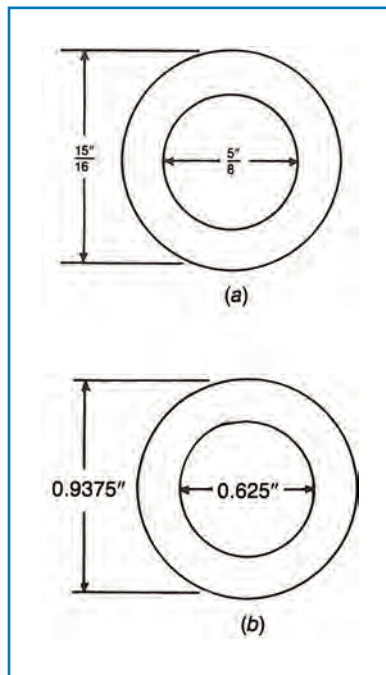

Fig. 12. Ring
The outside diameter (OD) of the ring in **Fig. 12(a)** is  $\frac{15}{16}$ ", and the inside diameter (ID) is  $\frac{5}{8}$ ". The use of these fractional measurements tells an experienced machinist that the dimensions should be held as closely as possible, but there are no critical fits involved between the ring and other machine parts.
The line in a common fraction tells you that the numerator is divided by the denominator. If this division is carried out, a *decimal* will result. Thus, the dimension  $\frac{15}{16}$ " in Fig. 12(a) becomes 0.9375", and the inside diameter of  $\frac{5}{8}$ " becomes 0.6250". The ring would then be dimensioned as shown in Fig. 12(b).